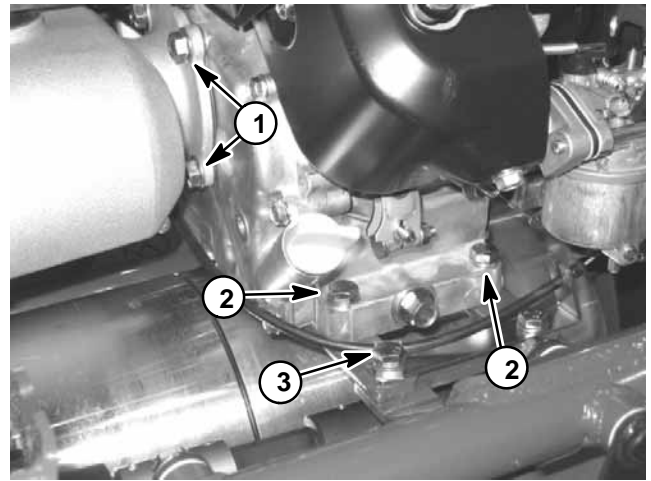

Figure 6
A. Remove cap screw and flange nut that secure cable clamp to traction unit frame (Fig. 6). Locate and retrieve three (3) washers from under clamp.
6. Remove engine from the engine base (Fig. 6):
A. Remove four (4) flange nuts that secure gearbox assembly to set screws on engine crankcase cover.
C. Remove four (4) cap screws, flat washers and flange nuts that secure engine to engine base of traction unit.
D. Carefully slide engine away from gearbox assembly to allow engine gear to clear gearbox. Remove and discard flange gasket (item 2).
- C. Position three (3) washers and cable clamp to frame (Fig. 6). Secure with cap screw and flange nut.